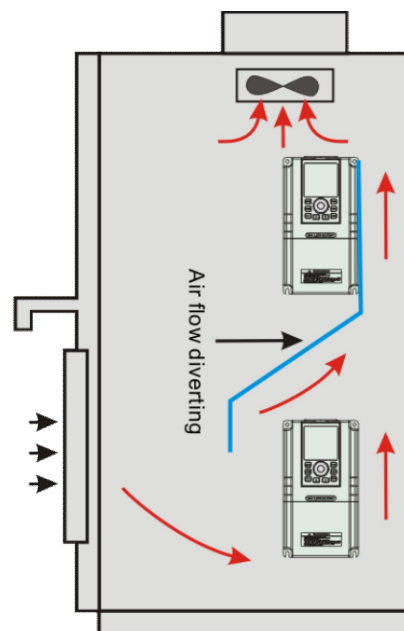

Fig.3-2 Mounting of multiple inverters
- When several inverters are installed in one cabinet, they should be mounted in parallel with special incoming and out coming ventilation and special fans. When two inverters are mounted up and down, an air flow diverting plate should be fixed as shown in Fig.3-2 to ensure good heat dissipation.